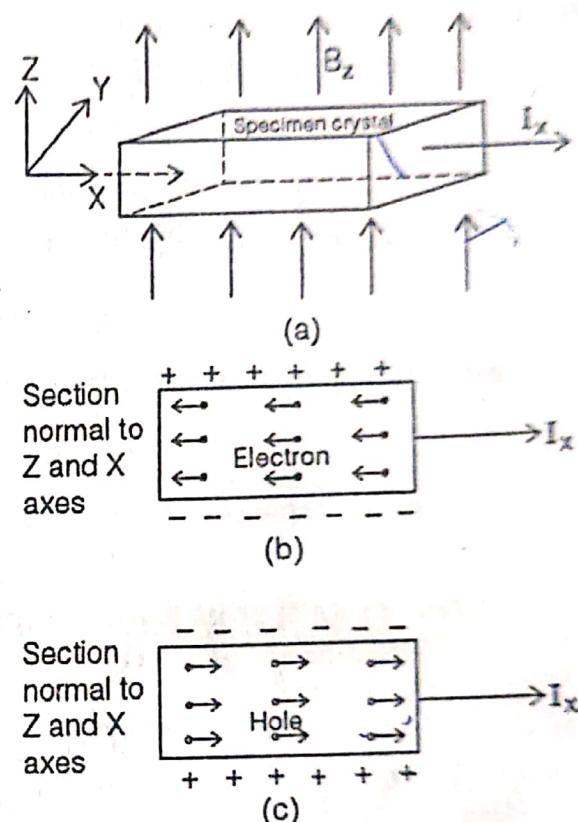

Fig. 12.2
This force acts along negative  $Y$ -axis due to which electrons on which it is exerted drift from positive  $Y$ -axis toward negative  $Y$ -axis. Thus, an induced electric field, called Hall electric field,  $E_H$  is established which causes a Hall potential difference  $V_H$  across the positive and negative  $Y$ -axes with positive  $Y$ -axis being at high potential difference (Fig. 12.2b). If the charge carriers are holes then the polarity of potential difference is reversed, that is, the surface towards the negative  $Y$ -axis would be at higher potential [Fig 12.2 c] than the surface towards the positive  $Y$ -axis. Hall electric field so produced opposes the drifting of the electrons and very soon equilibrium is reached due to the establishment of the condition of balance between the magnetic force  $e(v \times B)$  on the electrons along negative  $Y$ -axis and the electric force  $eE_H$  along positive  $Y$ -axis and consequently drift velocity acquires a steady value. In this situation the net force acting
**Formula Used :** When a specimen rectangular slab of semiconductor with length  $l_x$  (AB) along X-axis, breadth  $b$  (BC) along Y-axis and thickness  $d$  (AA') along Z-axis (Fig. 12.2) be placed in a magnetic field  $B$  (applied along Z-axis) and if  $I_x$  current is made to flow along X-axis in the slab, then a voltage, called Hall voltage,  $V_H$  is developed across the faces which are normal to Y-axis. This Hall voltage is measured with the help of millivoltmeter connected in the circuit. The allied parameters such Hall coefficient  $R_H$ , number of charge carriers per unit volume  $n$ , Hall angle  $\phi$  and mobility of charge carriers  $m_\mu$  are determined by using following relations :